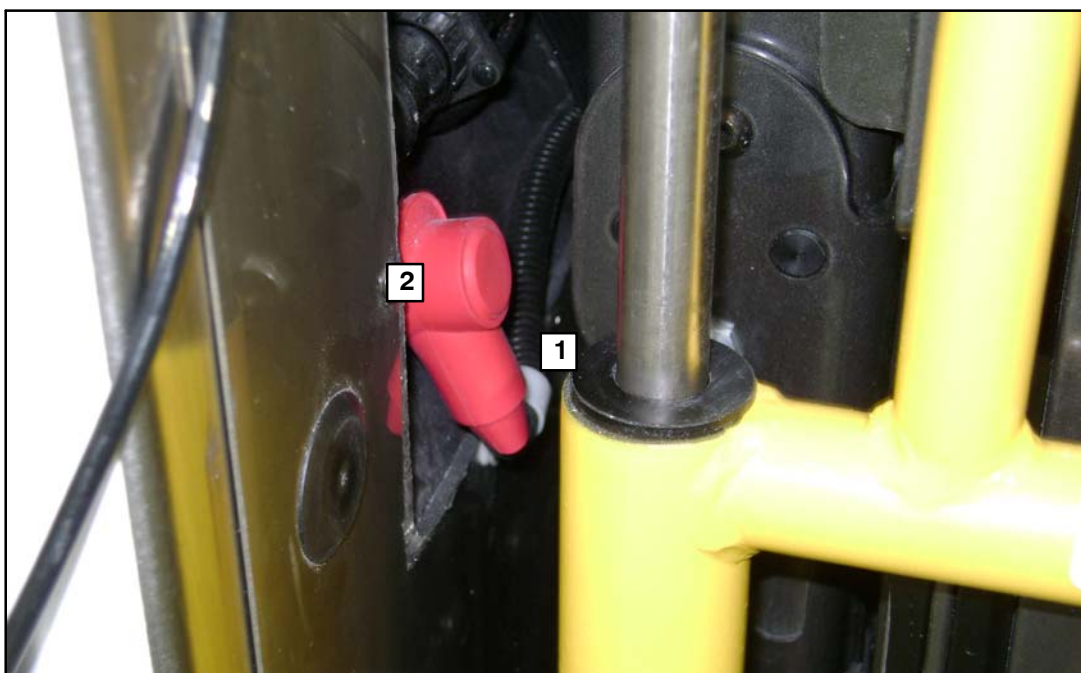

Figure 5. Reference photo of wheelchair compartment.
10. In the wheelchair compartment, remove the red protective boot from the one (1) wheelchair lift electrical terminal and apply high tack sealant to the terminal (refer to Figure 5).